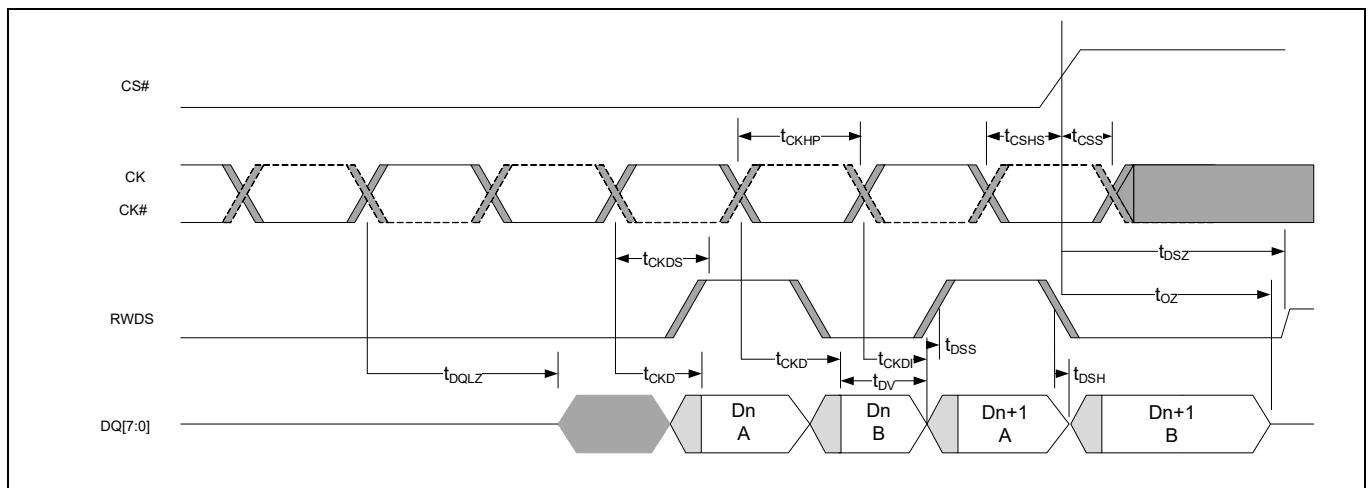

Figure 39 Data valid timing^[53-55]
- 51. Refer to Figure 39 for data valid timing.